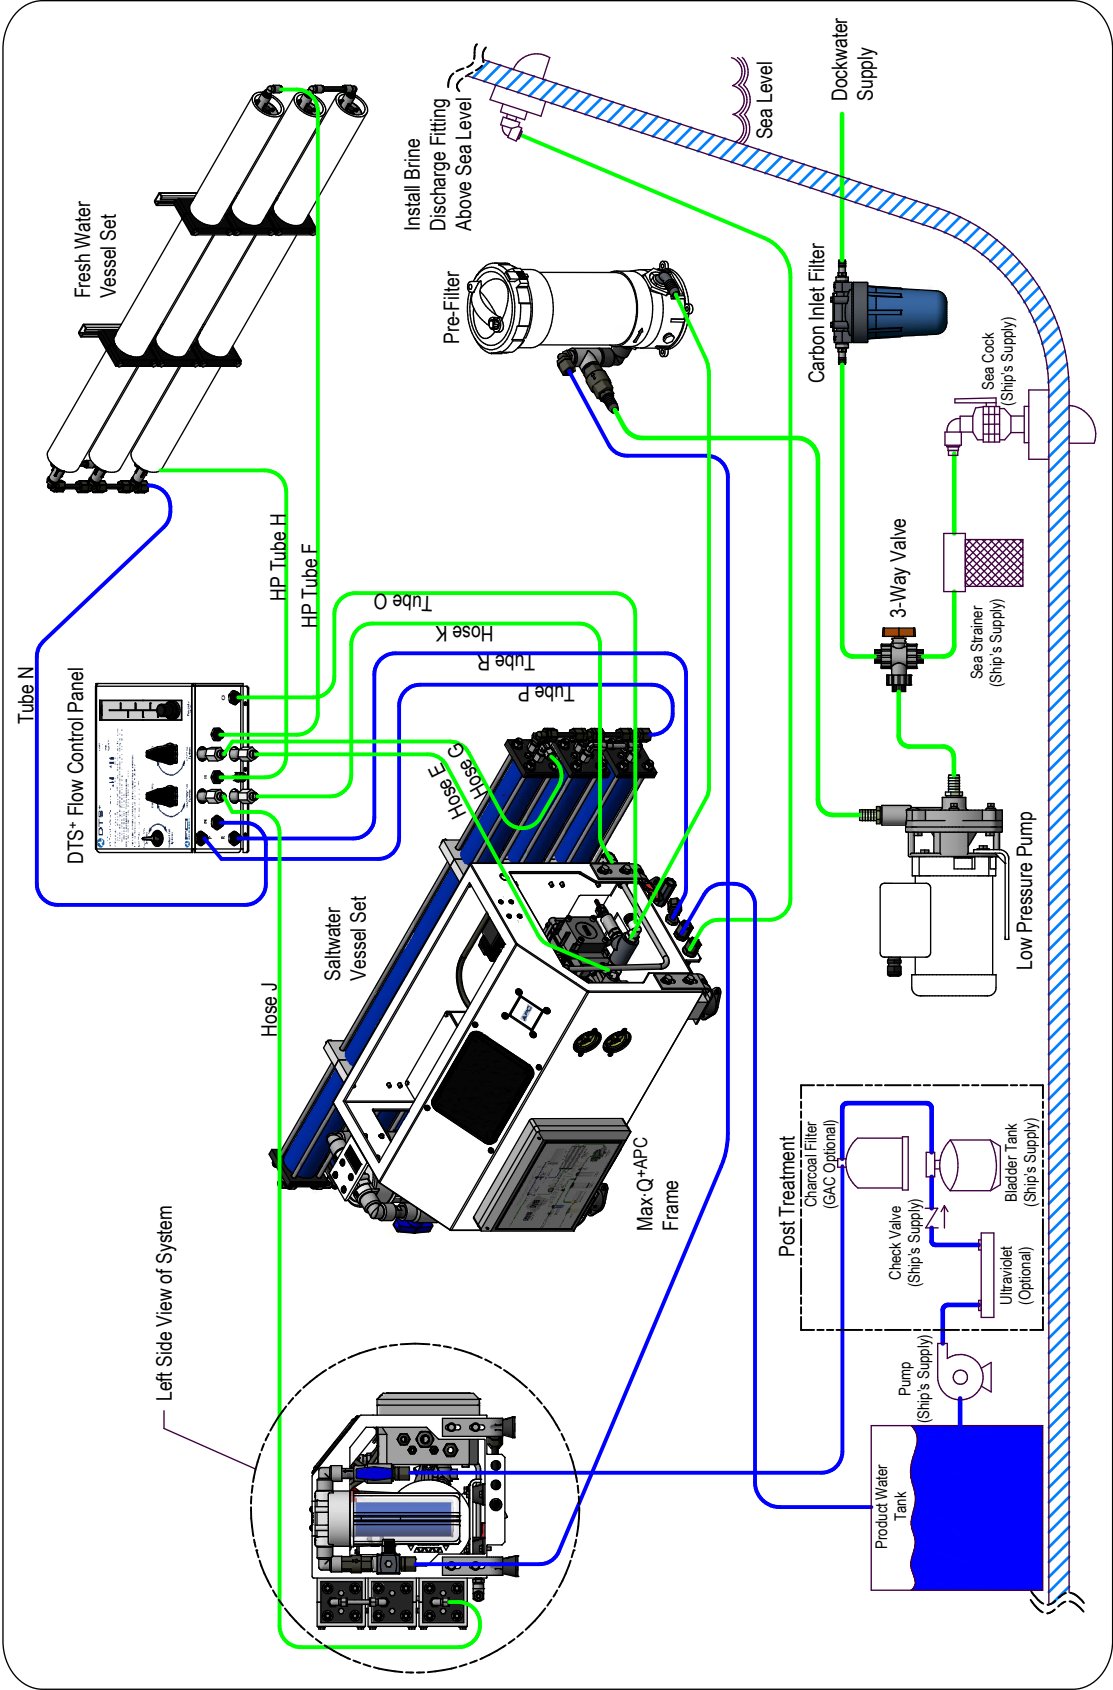

Figure 21: Max-Q+APC Frame 1,850 GPD with DTS+
- "Figure 21: Max•Q+APC Frame 1,850 GPD with DTS+" on page 43